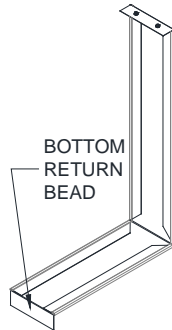

Figure 11.2 - Hood Splice
- Square hood sections do **not** overlap at the hood support. They butt against each other and a hood splice cover is provided to cover the joint, see **Figure 11.2**